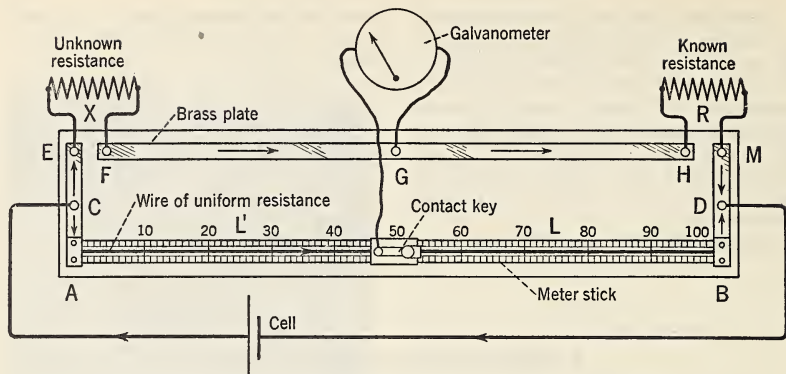

FIG. 683. The Wheatstone bridge is used to measure resistance.
3. *Wheatstone bridge method.* The Wheatstone bridge consists of a board a little more than a meter in length and about 5 inches in width. (See Fig. 683.) Rather heavy strips of brass are mounted across each end of the bridge and along one side. The brass strip along the side has a gap near one end to permit the insertion of the conductor of *unknown resistance*, X , and also one near the opposite end to permit a